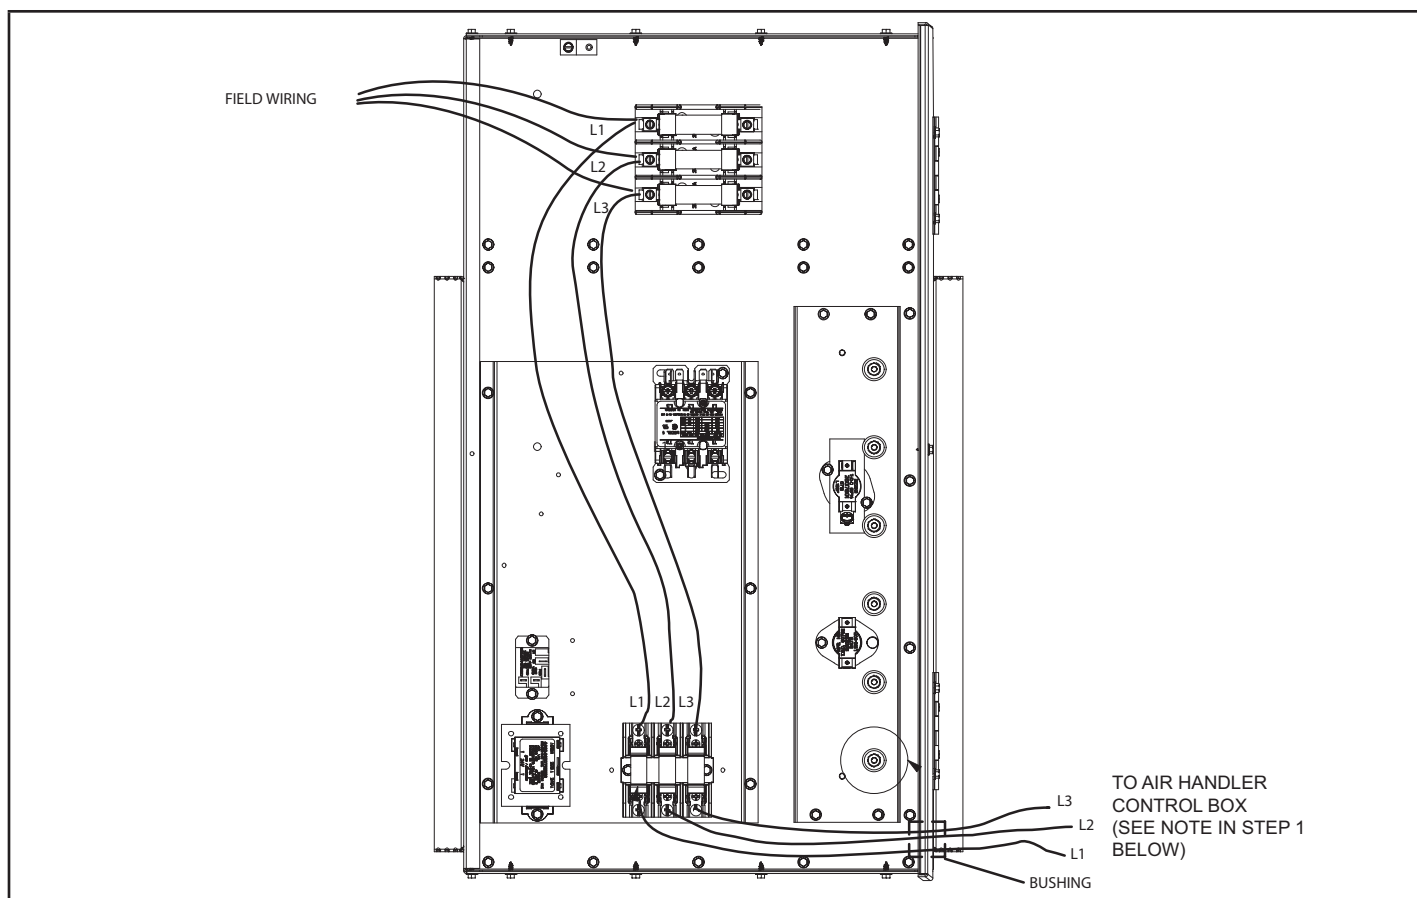

FIGURE 6. Typical Wire Routing
- 1 – Route the provided air handler power wiring through both the grommet and 7/8" bushing into the air handler as illustrated in figure 6.